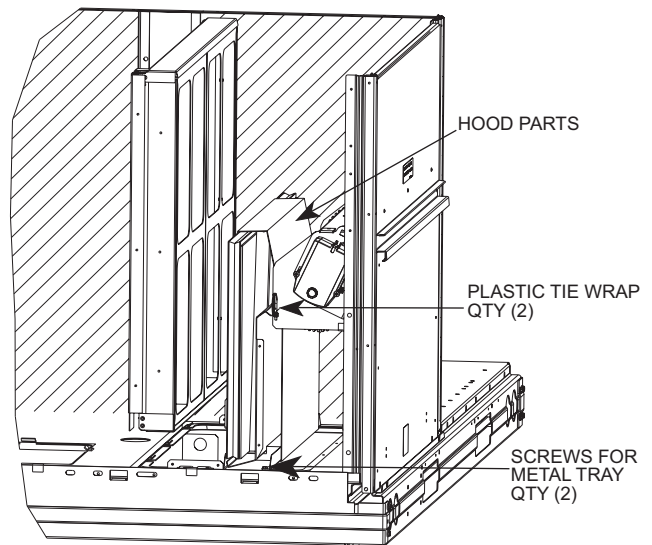

Fig. 14 — Economizer and Two-Position Damper Hood Parts Location
3. Locate the (2) screws holding the metal tray to the basepan and remove. Locate and cut the (2) plastic tie-wraps securing the assembly to the damper. See Fig. 14. Be careful to not damage any wiring or cut tie-wraps securing any wiring.